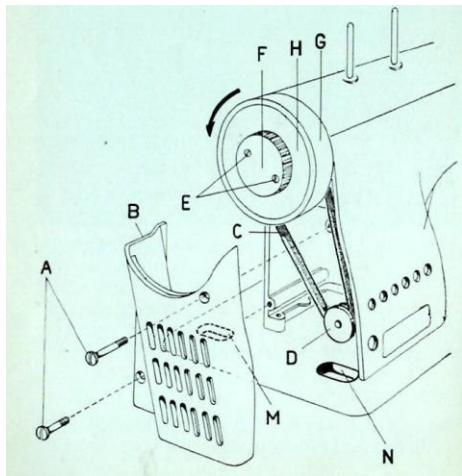

Figure 34
- 1) Remove the 2 screws A (figure 34) and the cover B.